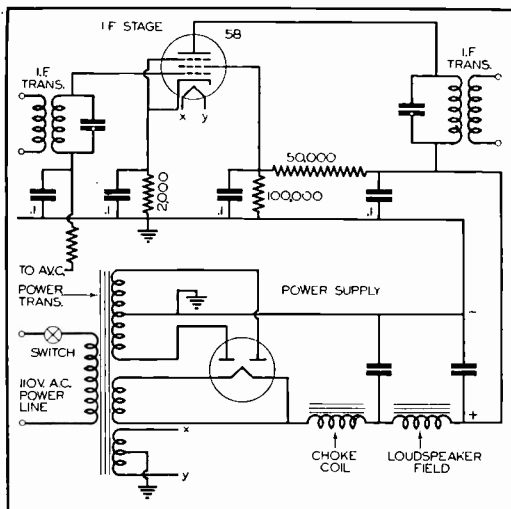

FIG. 1
1. Power Supply Circuits. First, then, you consider the power supply system. As you know, each and every tube in the set must be supplied with either A.C. or D.C. filament power; for example, in an A.C. operated receiver, the rectifier tube will have its own secondary winding for the filament, and the filaments of all other tubes will be connected together in parallel to the other low voltage secondary winding. Oftentimes the actual filament connections are not shown on a schematic circuit diagram, the secondary terminals of the transformer being indicated by letters or numbers and corresponding letters or numbers being shown at the filament terminals of each tube. For example, in Fig. 1 the two secondary terminals are marked *x y* and the filament leads of the type 58 tube are similarly marked, indicating that wire connections exist between corresponding letters.
In the case of a full-wave rectifier, the center tap of the high voltage transformer winding serves as the negative terminal of the power pack; this is usually grounded to the chassis. The other power pack output terminal, which connects through the choke coils to the filament or cathode of the rectifier tube, is therefore the positive terminal. From these two terminals the filtered and rectified power pack output current is distributed to the various tubes and circuits; you may find a voltage divider connected directly across these terminals, but more often you will find voltage dropping resistors and voltage dividers scattered throughout the circuit and connected to individual tubes as in Fig. 1; in either case each stage gets its required voltage independently of the other stages. No matter what scheme is used, you can always trace a particular supply circuit by starting at the cathode of
circuit diagram to tell you what electrical connections should exist and not how the various parts are connected. Fig. 2 shows a practical connection of parts; compare it with Fig. 1.
Fig. 2. Quite different from the schematic circuit diagram is this actual connection diagram, showing a few of the parts which are connected to the type 58 tube in Fig. 1.